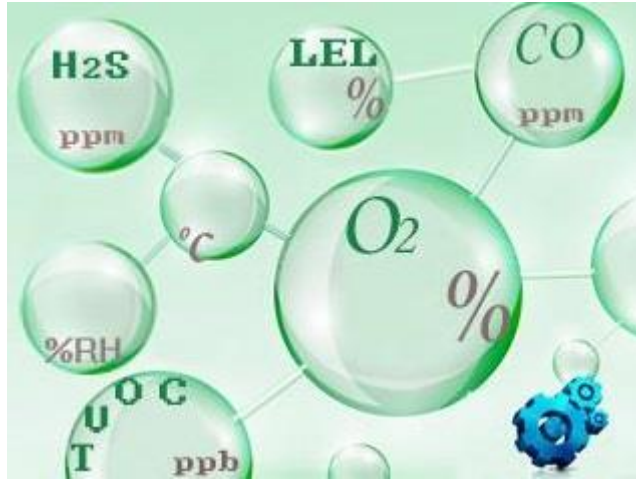

Figure 3
1. After the module is powered on, it displays the main interface as below (Figure 3). After about 10 seconds to display the environmental data you can see in each specific data. They represent CO, O₂, H₂S, LEL, VOCs and T/RH measurement.